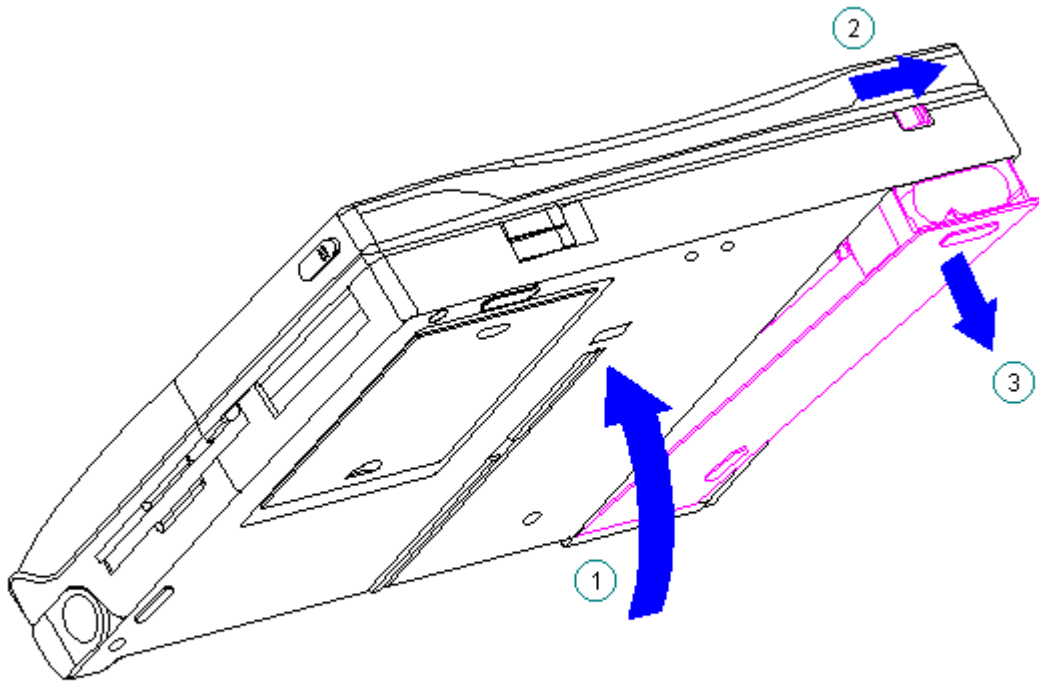

Figure 5-4. Opening the Battery Compartment
7. Open the battery compartment by lifting up the front of the computer [1] and sliding the battery compartment release button to the right [2]. The battery compartment opens slightly. Lower the compartment [3] (Figure 5-4).